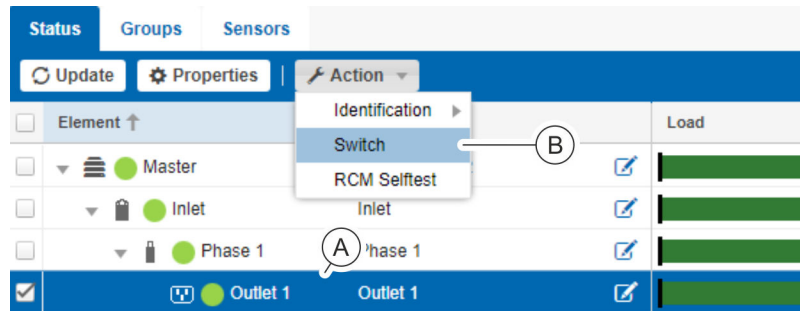

Fig. 101: “Status” menu – “Status” tab
2. Select the desired socket or socket group in the “Status” tab (Fig. 101/A).
3. Call up the “Switch” window using “Action → Switch” (Fig. 101/B).